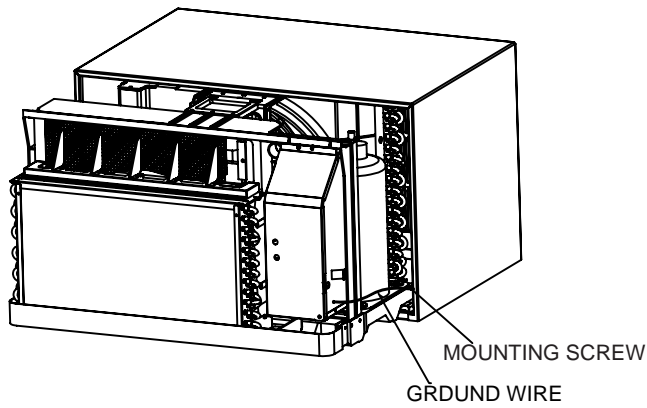

Figure 3
- A slight downward pitch from the indoor side to the outdoor side as shown in Figure 3.
2. Remove the grounding screw and wire next to the grounding symbol on right side of chassis control panel (Figure 3). Attach other end of ground wire to the hole in the bottom right side of the sleeve with #8 x 3/8" blunt point sheet metal screw. The hole on the sleeve is indicated by grounding symbol on the sleeve. Slide chassis part of the way into the sleeve and reattach the ground wire back to the hole on the right side on the control panel area next to the grounding symbol.